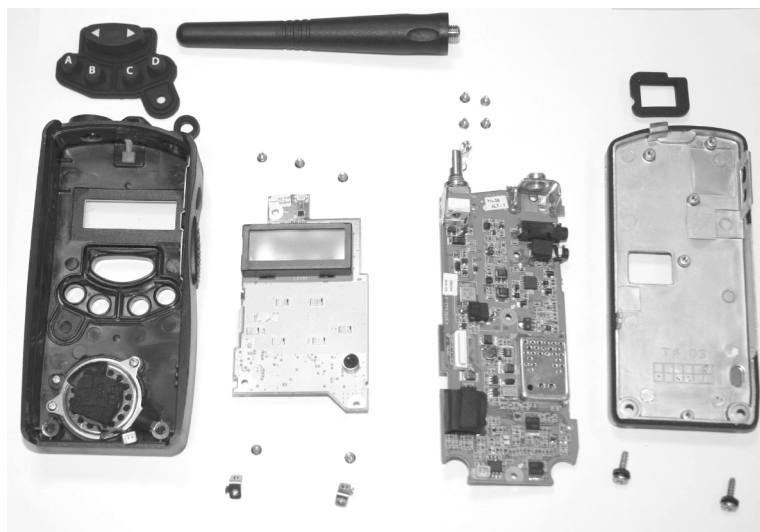

Figure 2-6.
2. Gently remove the RF board from rear diecast. Then, completely disassembled radio is shown in Figure 2-6.